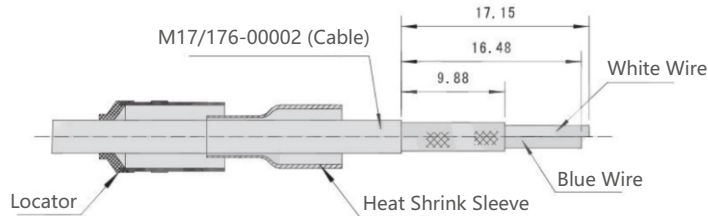

Figure 3.7
- ① As shown in Figure 3.7, slide the heat shrink sleeve and locator onto the cable jacket (starting from the end with the smaller diameter).
- ② Strip the cable jacket to the position shown in the figure. The end must be cut clean and perpendicular to the axial plane of the cable. The cable must not be deformed or damaged during cutting.